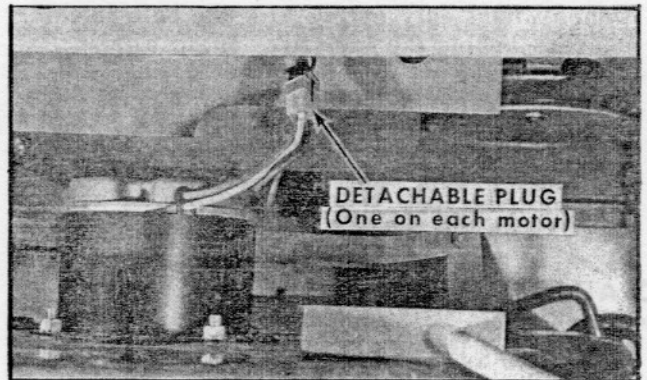

FIG. 16
1. Disconnect the detachable plugs (one on each blade motor) from the wiring harness. (See Fig. 16)